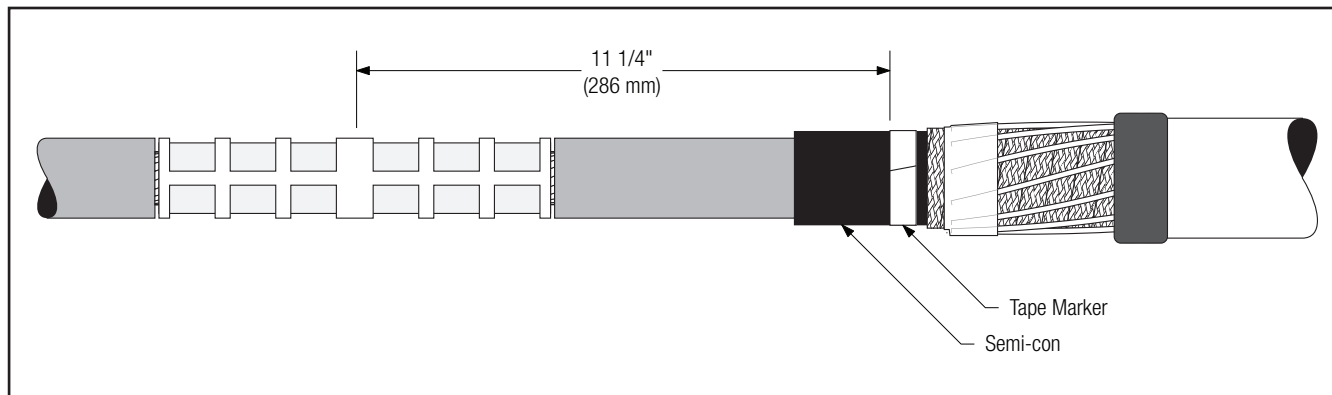

Figure 13
- 4.1 Apply a tape marker to semi-con insulation shield on cable which does not contain splice. Measure 11 1/4" (286 mm) from center of connector (*Figure 13*).